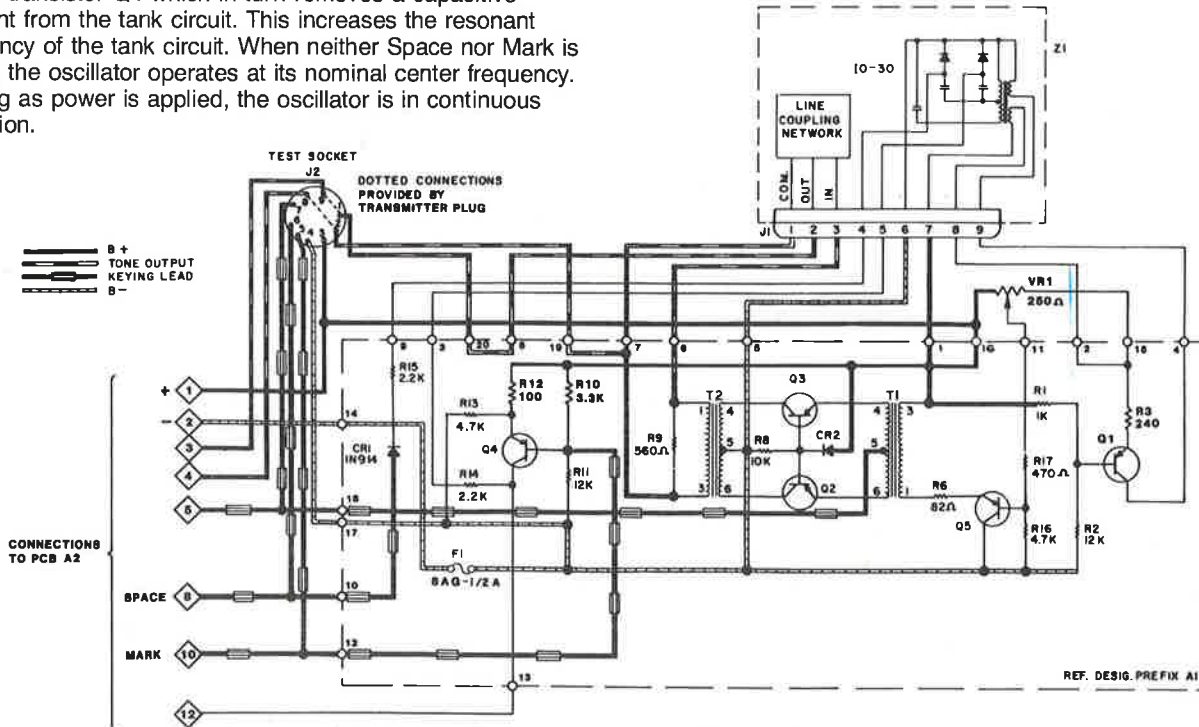

Figure 3. FSK Transmitter - Schematic Diagram
4.14 FSK Transmitter (See Figure 3).